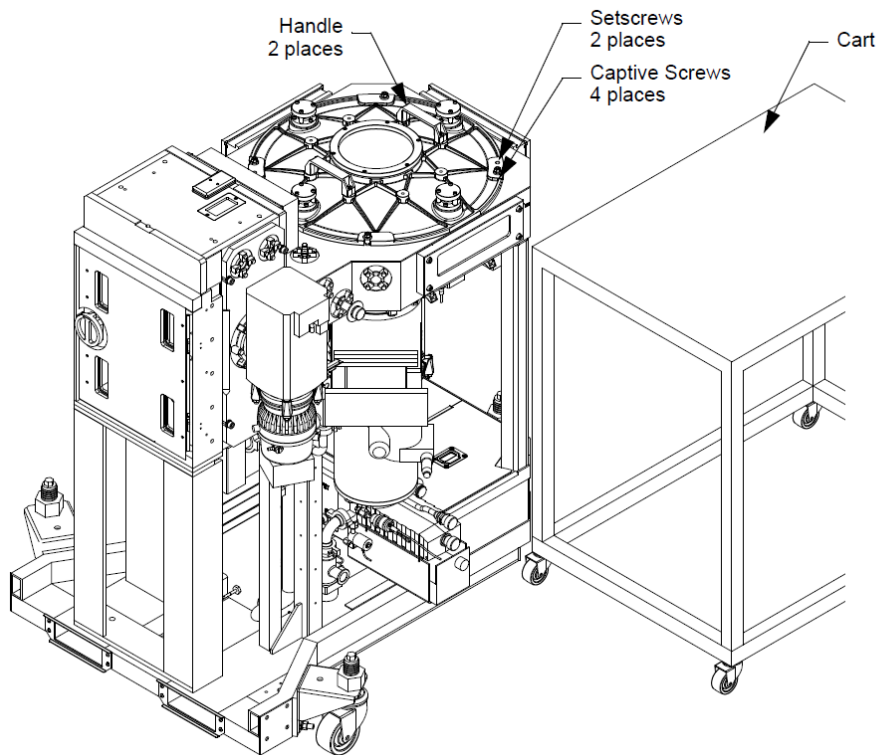

Figure 9-2: Removing Lid
2.	Place a cart as shown in Figure 9-2 .
2.	Place the cart holding the lid as shown in Figure 9-2 .
5.	Tighten each captive screw (4 places). See Figure 9-2 for screw positions. NOTE: DO NOT TIGHTEN the screws after the chamber is at vacuum.